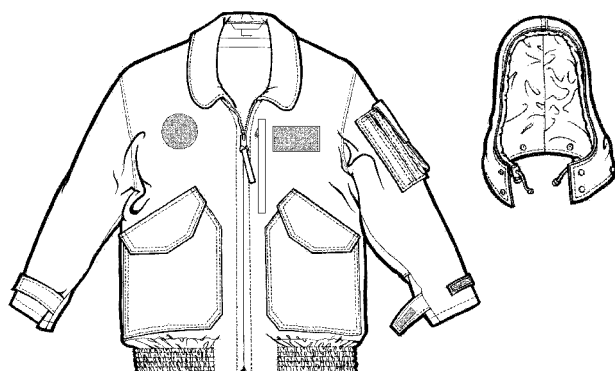
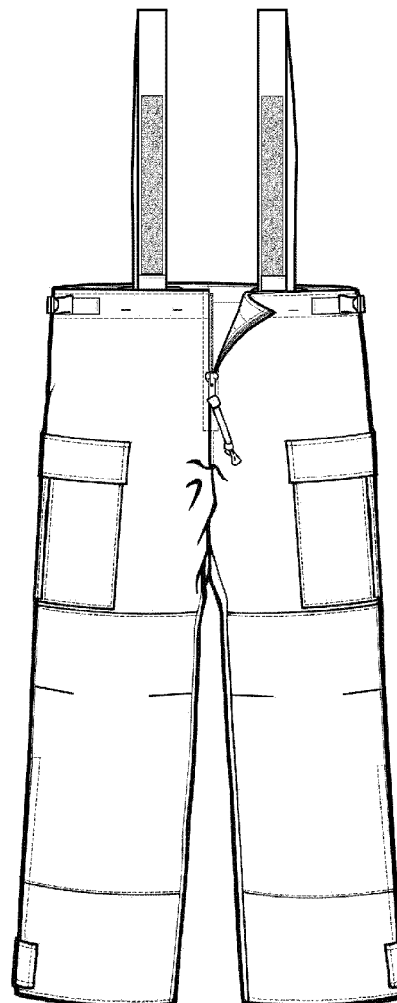

Figure 3-48. Outershell Jacket and Hood
Figure 3-49. Outershell Trouser
6. The **Outershell Jacket/Hood** (figure 3-48) and **Trouse** (figure 3-49) are a waterproof, windproof, and breathable flame-resistant Gortex™ Best Defense fabric, developed and manufactured for the MCPS. The outershell jacket can be used alone or over the other MCPS garments as layered protection. The jacket is designed to stay on the hip, has waterproof zippers, a “map” pocket on the upper left chest, hand warmer pockets behind the large front patch pockets, and the jacket has a survival hood which can be snapped onto the collar. The shell pant is made of the same fabric as the shell jacket. The pant can be put on while wearing boots and comes with suspenders to help keep them in place. The outershell trousers can be used alone or over the other MCPS components as layered protection.